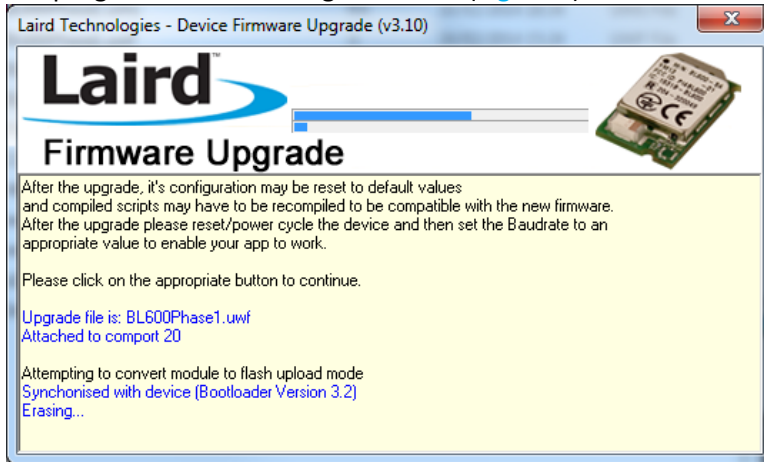

Figure 5: Firmware upgrade in progress
- If the firmware version is correct, click **Start Upgrade**. The download process starts, with the screen showing the progress and describing the status (Figure 5).